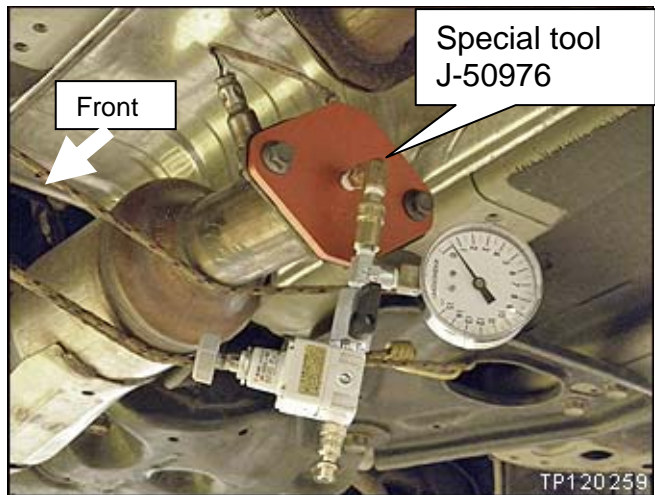

Figure P7
11. Attach special tool J-50976 to the rear of the front exhaust tube as shown in Figure P7.